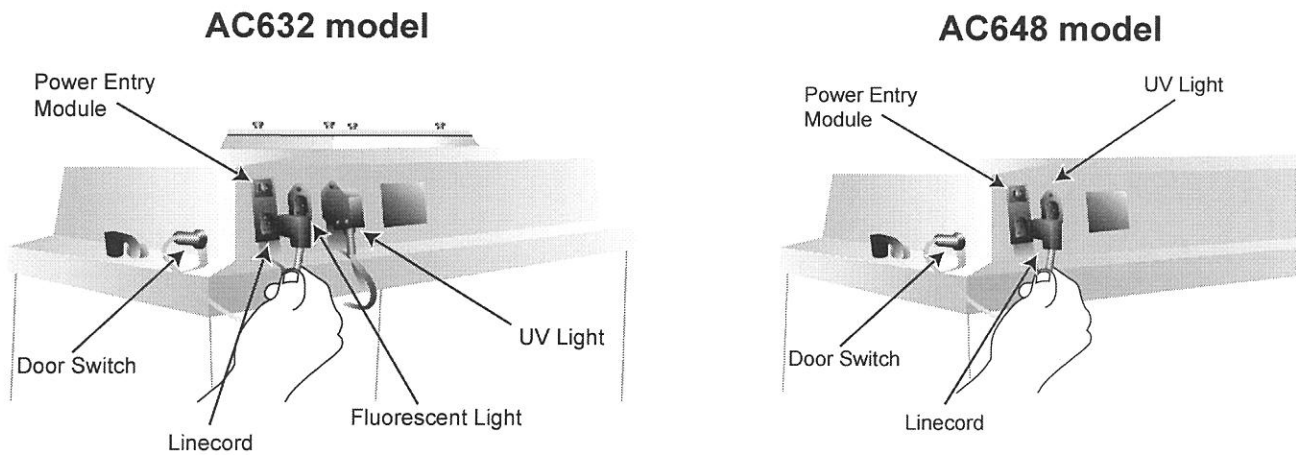

Figure 4, Door Switch, UV Lamp and Linecord Connections.
- 8) Ensure that the door switch cable on the right hand side of the head assembly is secure. See figure 4.
- 9) Make sure that any exterior linecord connections (i.e. UV light, fluorescent light) are secure and seated properly. These connections are located on the back of the workstation. See figure 4.
- 10) Locate the power entry module on the back of the workstation. Insert the female end of the linecord into the power entry module and the male end into an appropriate electrical outlet. See figure 4.
1. Disconnect linecord from the power entry module. Disconnect the door switch cable and light cables. See figure 4. (Page 10)